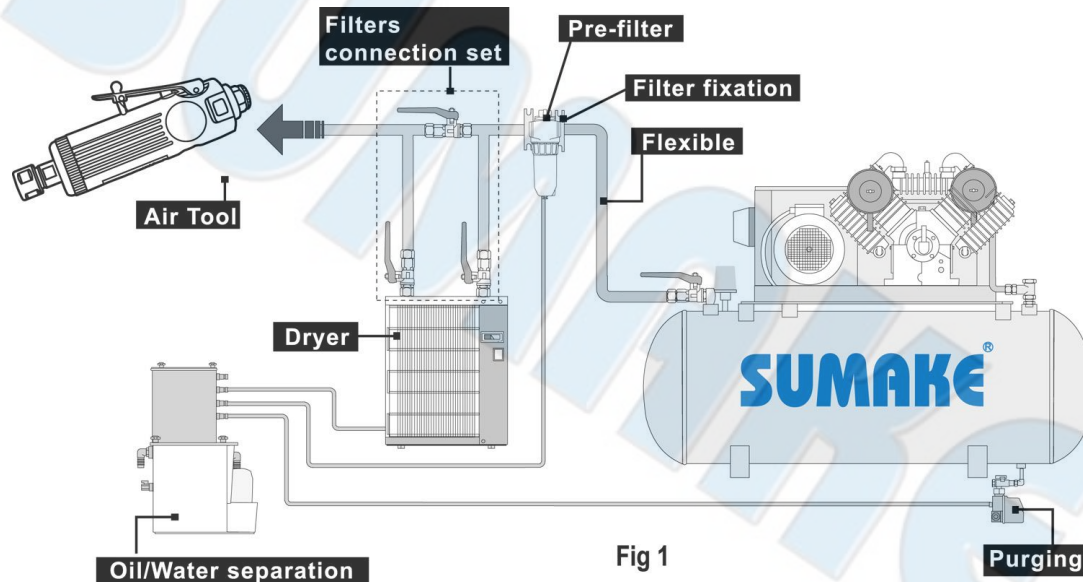

Fig 1
- Please refer Fig.1 illustration shows the correct mode of connection to the air supply system which will increase the efficiency and useful life of the tool.
- Dry the filter (fig1) and the air inlet of the tool.